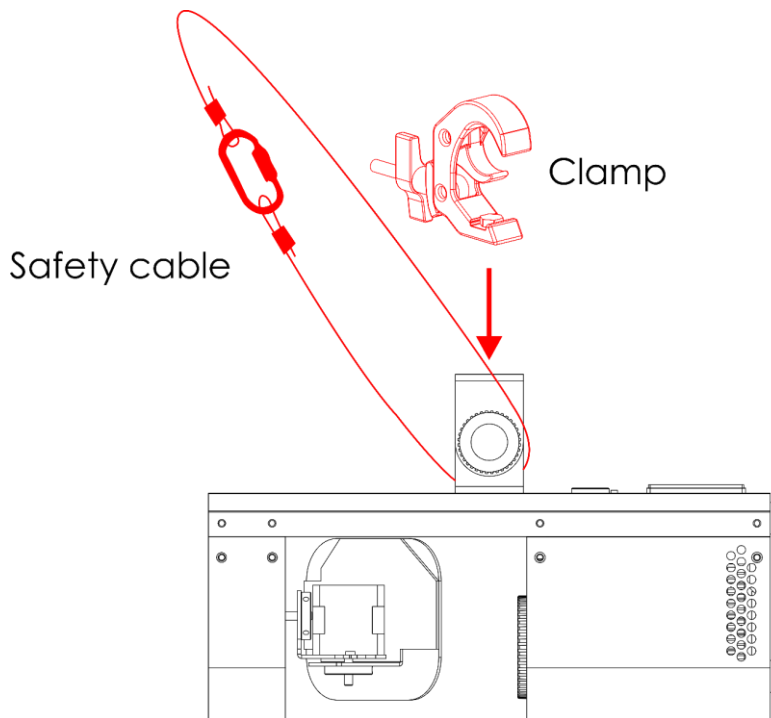

Fig. 06
- 01) Use a clamp to attach the device to the supporting structure, as shown in Fig. 06. Make sure that the device cannot move freely.
- 02) Secure the device with a secondary suspension, for example a safety cable. Make sure that the secondary suspension can hold 10 times the weight of the device. If possible, the secondary suspension should be attached to a supporting structure independent of the primary suspension. Put the safety cable around the **mounting bracket (04)**, as shown in Fig. 06.